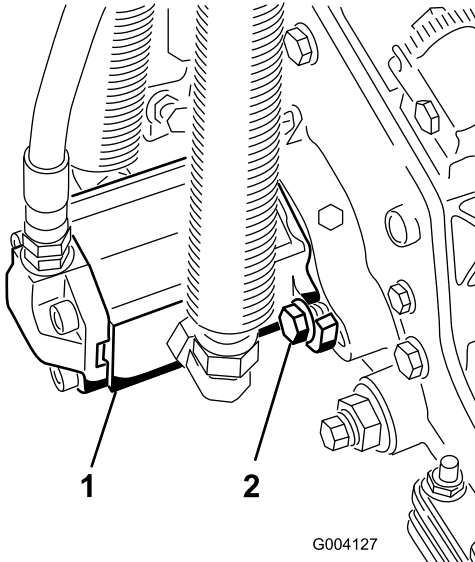

Figure 14
16. Install the motor by rotating it clockwise so that the motor flanges clear the bolts (Figure 14).